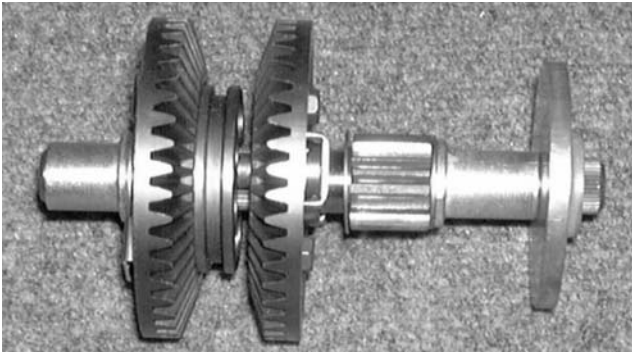

Figure 8-60.
9. Remove the differential assembly. See Figure 8-60.
10. Remove the shift fork, detent ball, and spring. See Figure 8-60.
11. Remove the upper drive shaft assembly. See Figure 8-60.